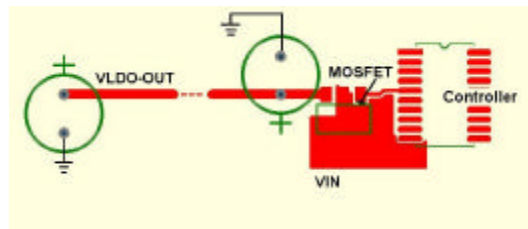

Fig 4. The placement and layout on LDO output node
- The black segment consists of an LDO and an LDO controller. By minimizing the voltage feedback loop length, the unnecessary interference can be avoided. In case the output trace is too long, an extra-capacitor attachment on the end of the output node, as shown in figure 4, prevents the LDO from unstable oscillation.